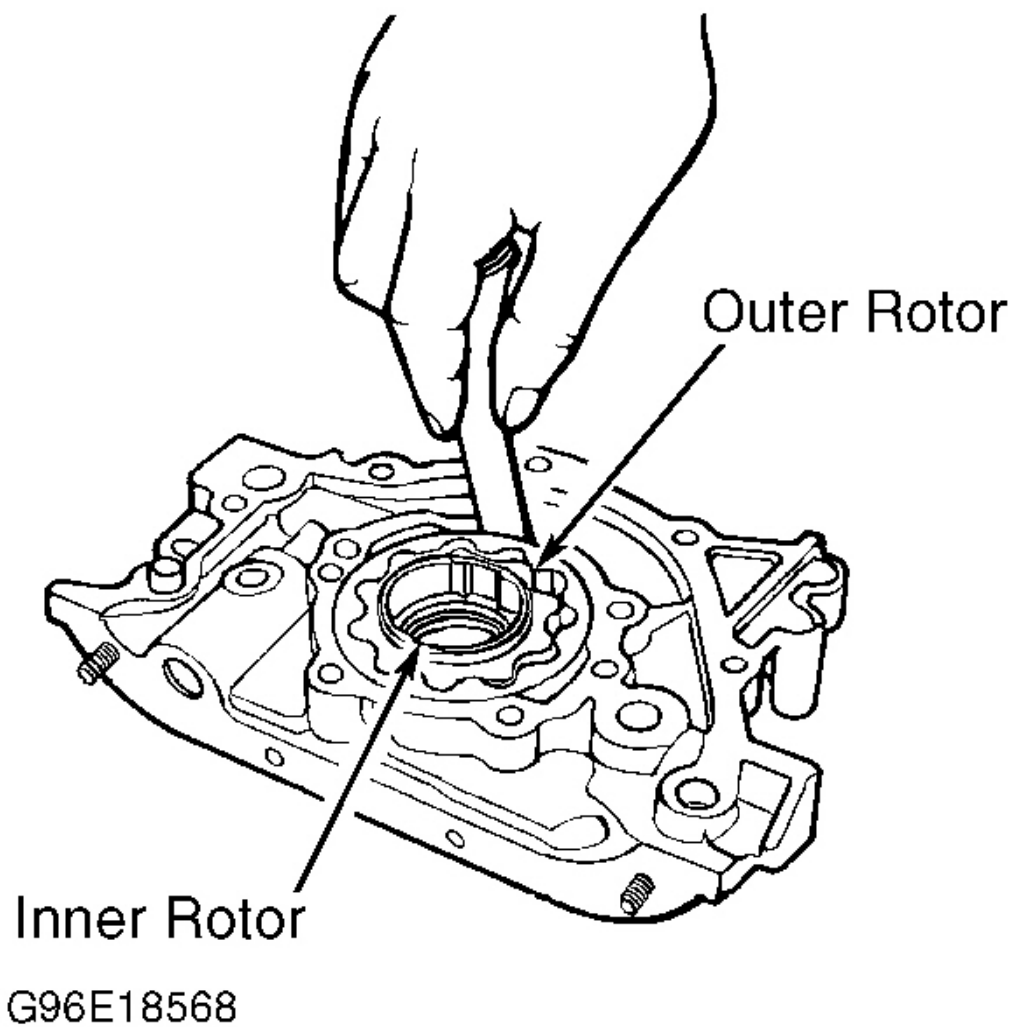
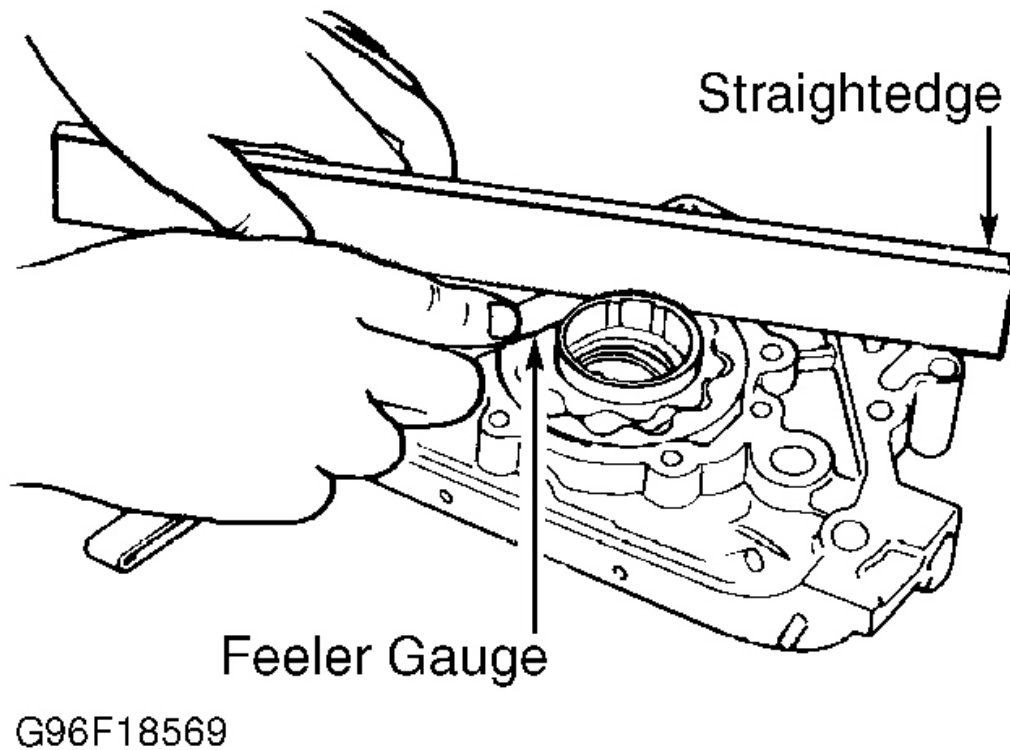

Fig. 23: Checking Oil Pump Radial Clearance
Fig. 24: Checking Oil Pump Side Clearance
2. Inspect oil pump gears for wear or damage. Using a feeler gauge, measure radial and side clearance. See **Fig. 23** and **Fig. 24** . If clearance exceeds specification, replace outer rotor or case. See **OIL PUMP SPECIFICATIONS**.